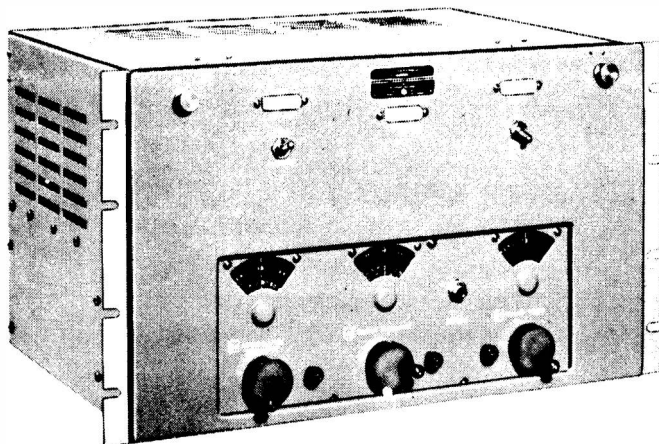

Figure 1-13. R-F Oscillator O-243/FRT-24
b. R-F OSCILLATOR O-243/FRT-24.—R-F Oscillator O-243/FRT-24 (see figure 1-13) is a stabilized, variable-frequency oscillator which derives its stability from a 100-kc crystal standard oscillator, and utilizes a permeability tuned oscillator which provides a frequency stabilized output in the range of 2 to 4.2 mc. It is mounted on telescoping slides in the left-hand cabinet in the relay rack, below the Patch Panel Assembly. Refer to table 1-1 for the dimensions of R-F Oscillator O-243/FRT-24.